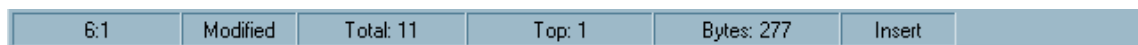

Figure 4-2. WinIDE Status Bar
- **Status Bar:** The status bar (Figure 4-2) appears along the bottom edge of the main window and contains a number of fields (depending on the project) that show: